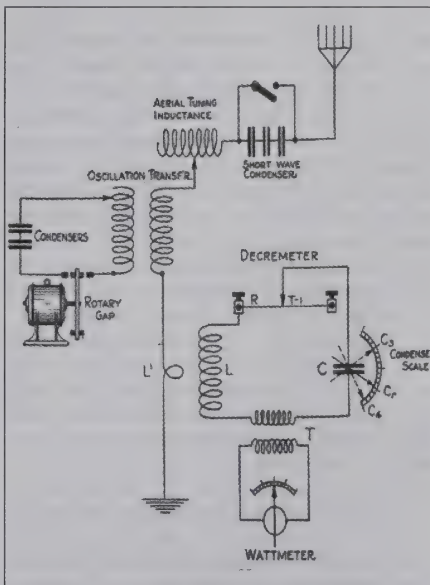

Fig. 6. Method of Coupling Decremeter to Spark Transmitter.
The decremeter is set up close to the spark transmitter in a manner shown in Figure 6 [ref(1), figure 217]. The key of the transmitter is closed, and the transmitter adjusted for a clean and clear note (relatively speaking). The mechanical spacing between the wave meter's search coil and one-turn pickup loop  $L'$  is adjusted until the wavemeter's RF indicator reads a convenient value near full scale when the transmitter's resonant frequency is found.
You may have noticed R, T-1, and T in the decremeter portion of Figure 6. "T" is a means to transformer-couple a sample of the current that is circulating in the decremeter's LC circuit to a remote meter. "R" and "T-1" are used to determine the decrement of the decremeter. Refer to Section 170 of reference (1) for a discussion of how to perform the measurement and calculations for the decrement of a decremeter.